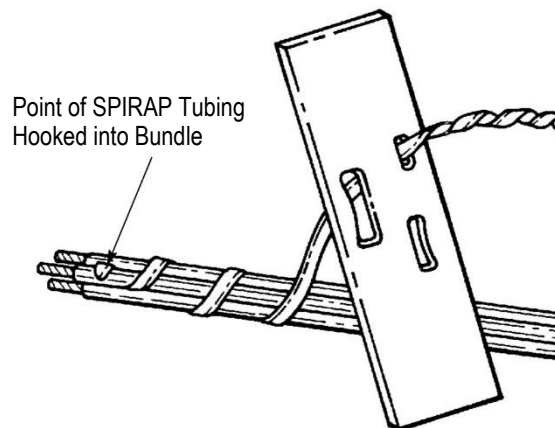

Figure 4
5. Hook point of untwisted SPIRAP tubing into bundle of wires. See Figure 4.
6. Hold end of SPIRAP tubing in bundle of wires and wrap tubing around the bundle by rotating the tool around the bundle. See Figure 4.